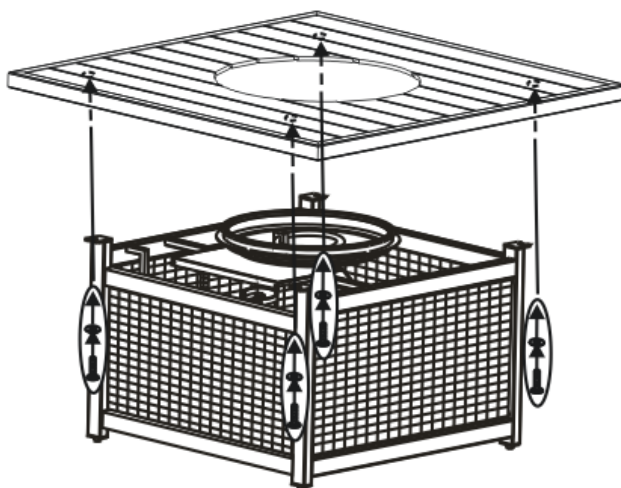

Figure 3
2. With the help of another person, carefully place the table top onto the table base. After making any necessary adjustments to the alignment of the table top and the assembled base, use four bolts and washers as shown in Figure 3. Guide the bolts through the holes in the base brackets, into the pre-drilled holes in the table top. **Do not tighten completely.**